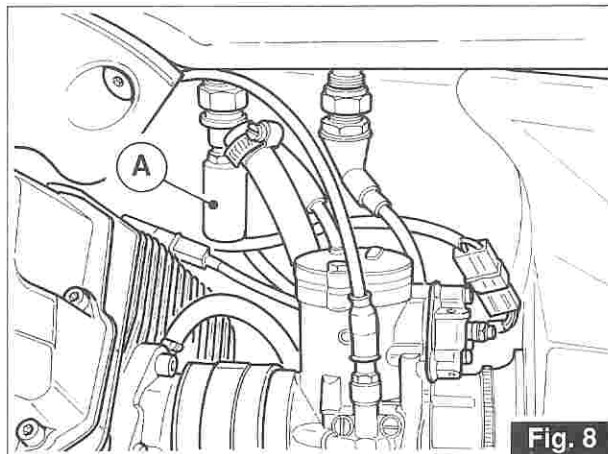

Fig. 8
3.12 ELETTROVALVOLE CARBURANTE (fig. 8)
3.12 FUEL SOLENOID VALVES (fig. 8)